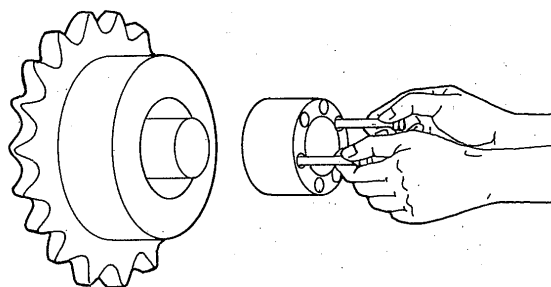

Fig. 3 Insertion example
4. After completing the pre-assembly of the POWER-LOCK, hold the bolts in the tapped holes of taper ring A as shown in figure 3 and insert the POWER-LOCK into the hub and shaft. Never strike the POWER-LOCK with a hammer or other such tools during installation. If the POWER-LOCK is installed horizontally, properly support the hub so that it does not become tilted under its own weight. (This tilt will lead to the deformation or damage of the POWER-LOCK or hub.)